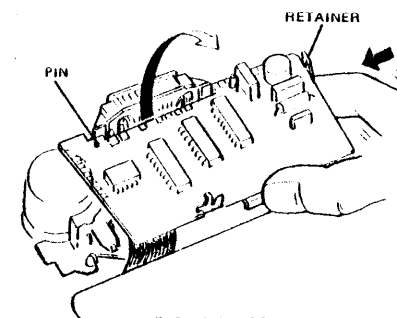

FIGURE 4-28
9. Reassemble the sonar module and shutter assembly to the camera (see Figure 4-28, 4-27, 4-26 and 4-25).